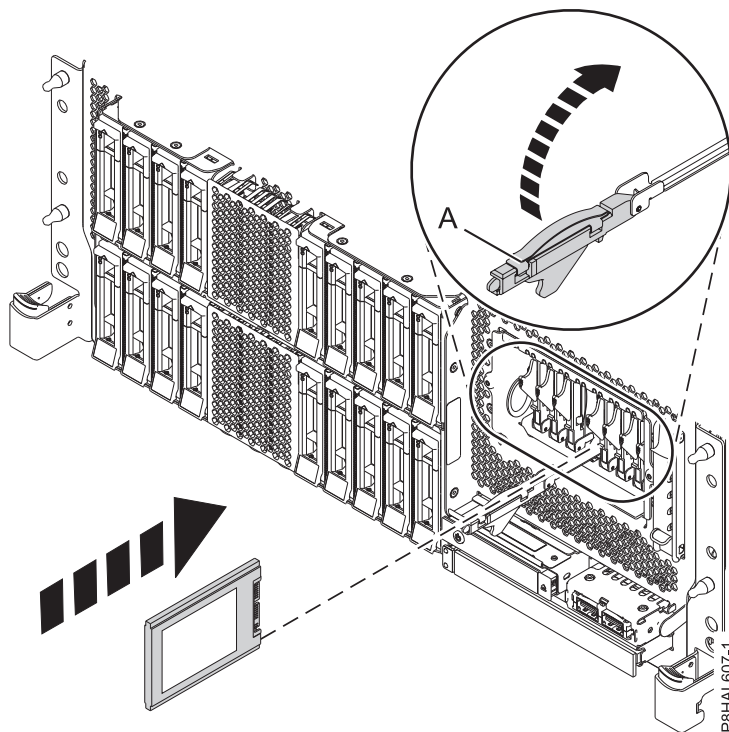
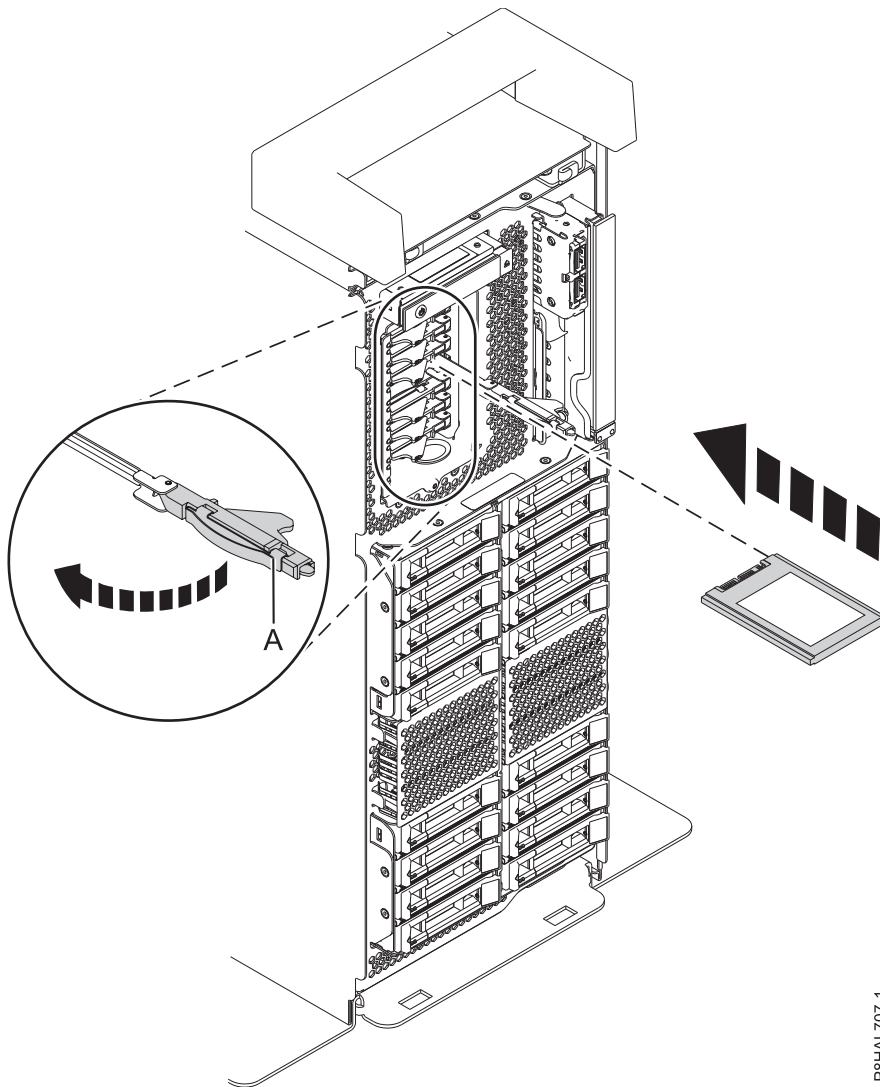

Figure 38. Installing an SSD in a rack-mounted expanded function system
Figure 39. Installing an SSD in a stand-alone expanded function system
15. With the SSD drive bay handle (A) in the unlocked position, pull the lever outward to gain access to the guide rails in the SSD slot. Support the bottom of the SSD as you align it with the guide rails in the SSD slot. See Figure 38 on page 43 and Figure 39 on page 44.
20. Lock the drive by rotating the bay handle (A) in the direction that is shown in Figure 38 and Figure 39 on page 44.